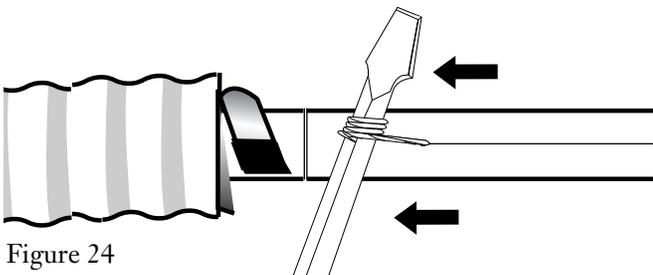

Figure 24
- c) Pull the rip cord through the jacket to the ring cut (Figure 24). Cut the rip cord flush at the ring cut.